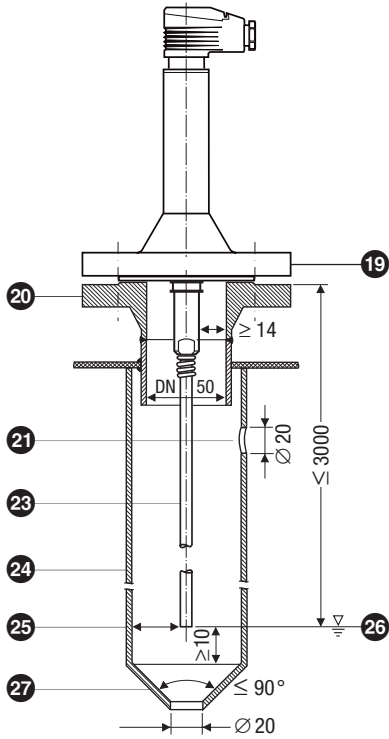
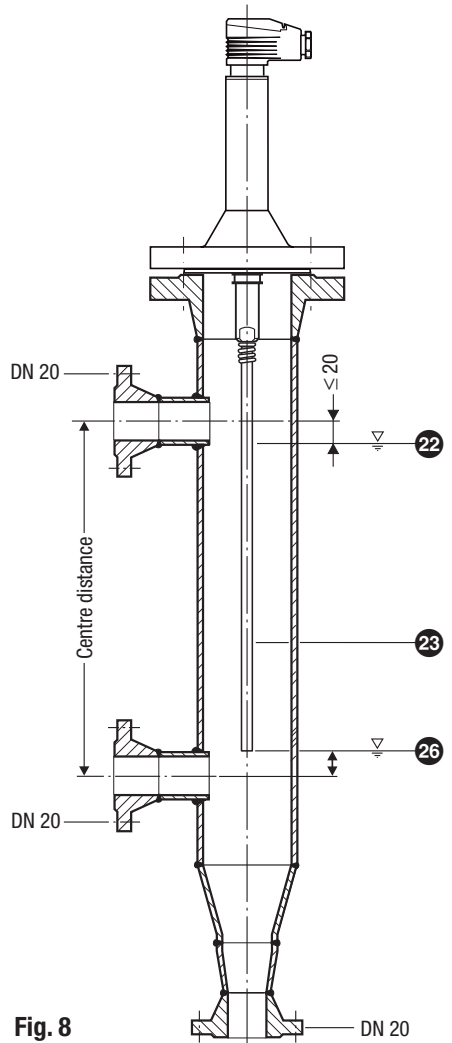

Fig. 7
Fig. 8
- Provide a min. spacing of 14 mm between electrode and earth (flange, boiler wall), **Fig. 7, Fig. 8**